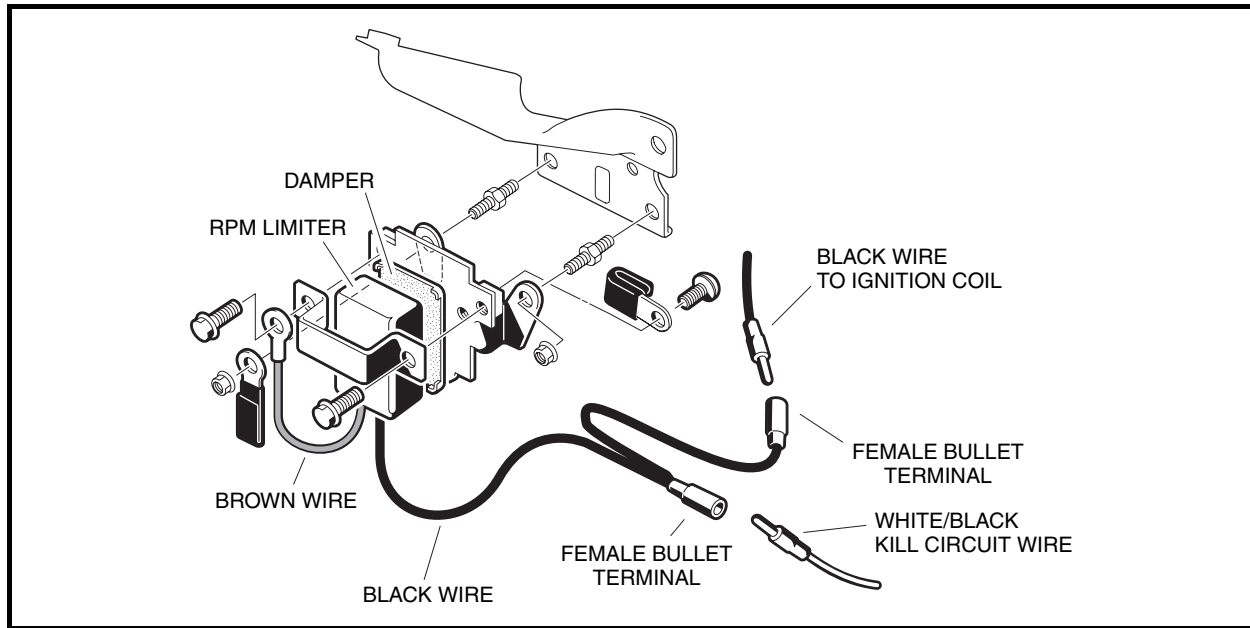

Figure 12-24 RPM Limiter Assembly
3. Disconnect the white/black wire from the black wire at the bullet connector located near the RPM limiter (**Figure 12-24, Page 12-23**).
5. Remove the flange head bolts from the RPM limiter band and remove the RPM limiter and damper (**Figure 12-24, Page 12-23**).
2. Place the RPM limiter with damper on the front of the RPM limiter mounting bracket (**Figure 12-24, Page 12-23**).